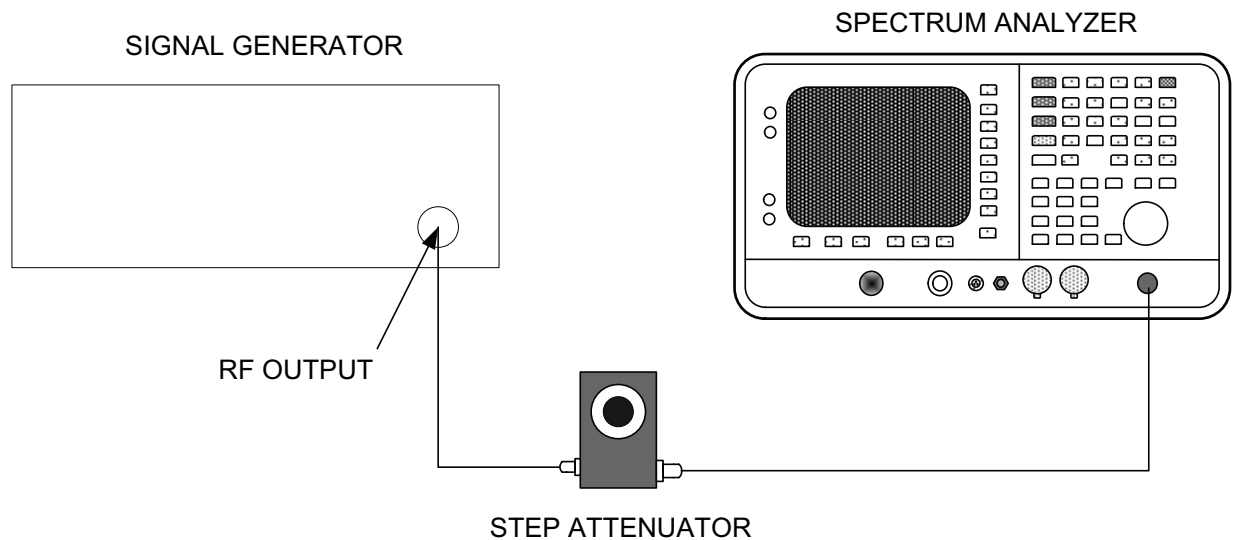

Figure 4. Output level (alternate method).
- (1) Connect signal generator RF output to power meter.
- (2) Adjust signal generator for 100 MHz and amplitude for 0 dBm indication on power meter.
- (3) Connect equipment as shown in figure 4.
- (4) Set attenuator to 80 dB.
- (5) Without adjusting signal generator, establish a reference indication on spectrum analyzer.
- (6) Repeat technique of (1) through (5) above, for power meter reading of -2.5 and +2.5 dBm. Record reference on spectrum analyzer without changing setting on spectrum analyzer.